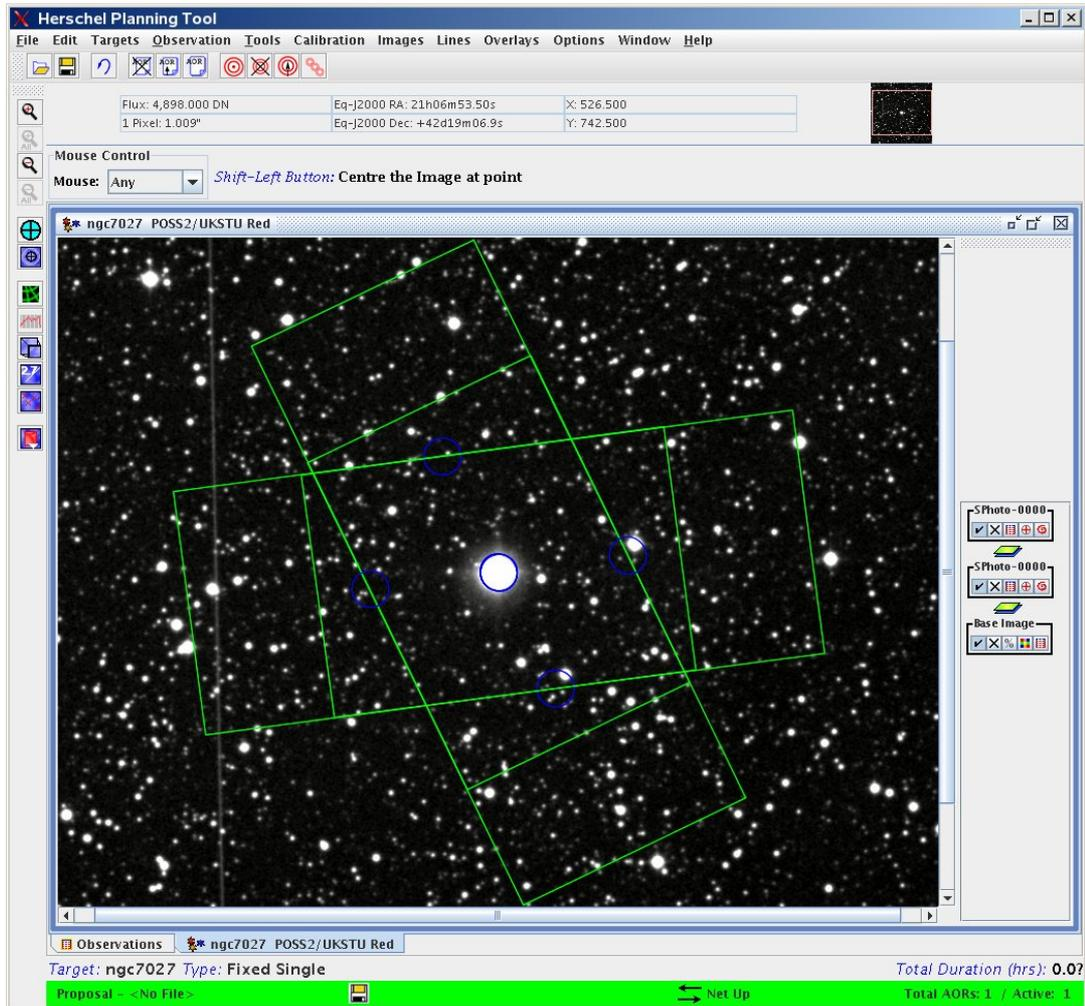

Figure 19.23. SPIRE Point Source Photometry: an example of an AOR overlay.
12. The final picture with the same AOR at the two extreme dates of the visibility window: 2009 Mar 31 and 2009 Aug 01 is shown in Figure 19.23